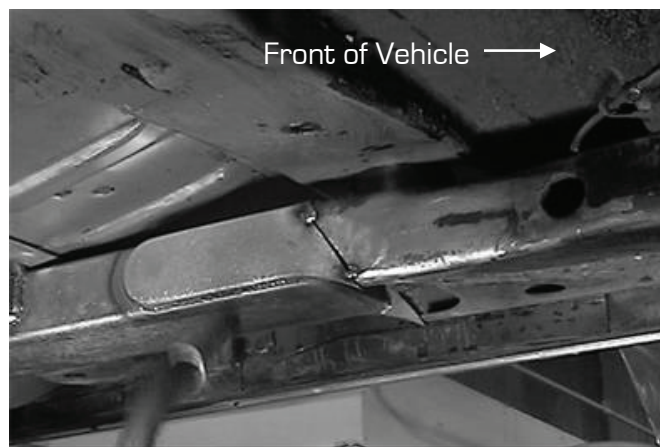

Figure 12
17. With the connector back in position, begin by only tack welding the connector to the rear rail and the front subframe (Figure 12).